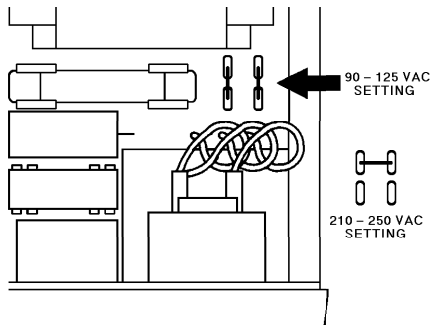

Figure 5-3 Line Voltage Jumper Configuration
3. Remove fuse with a fuse puller. The fuse is located behind the transformer as shown in Figure 5.3.
3. Modify jumper configuration to desired line voltage (see Figure 5-3).